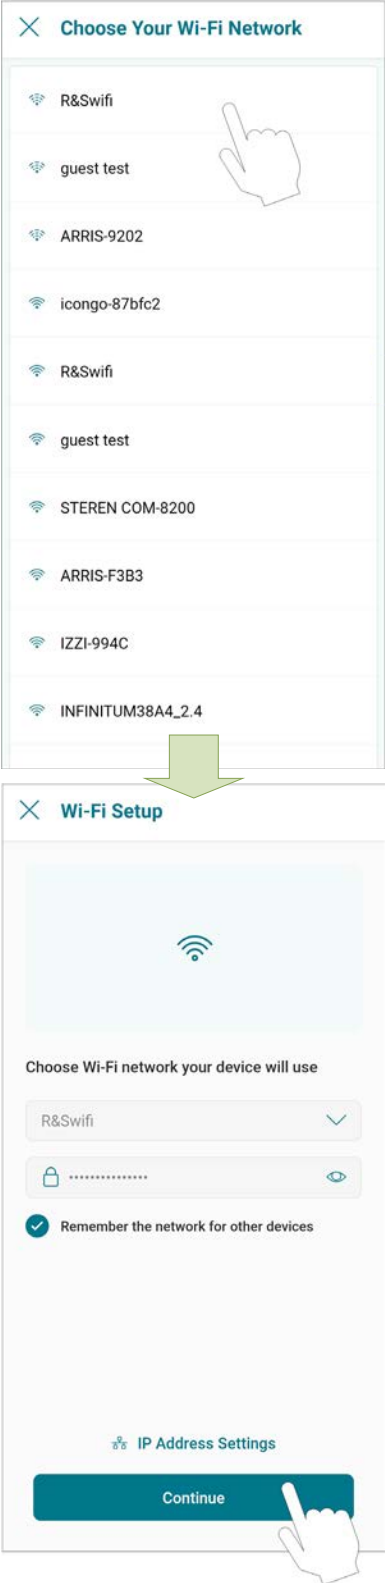

Figure 77. Wi-Fi Setup
- 5. The "Wi-Fi setup" screen will appear. Select or enter the Wi-Fi network you want your unit to be connected to and enter the network password. See Figure 77.